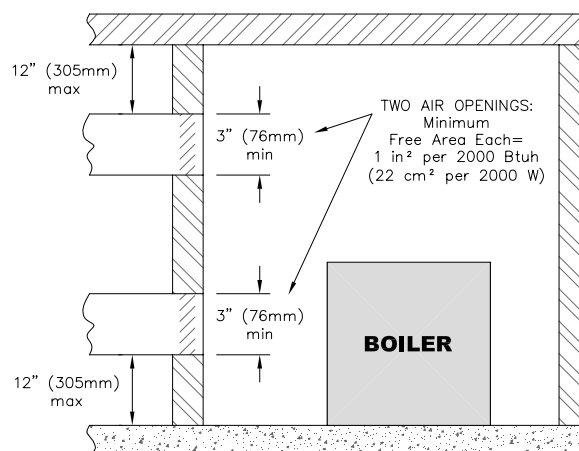

Figure 1.6: Air Openings – All Air from Outdoors through Horizontal Ducts
- ii. Where communicating with the outdoors through horizontal ducts, each opening shall have a minimum free area of 1 in² per 2000 Btu/hr (22 cm² per 2000 W) of total rated input for all appliances in the space. See Figure 1.6.